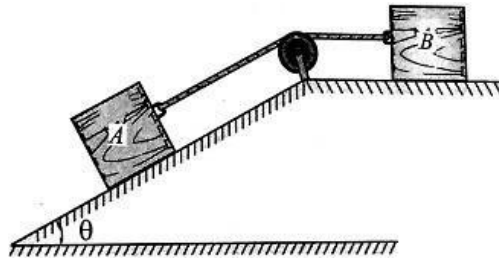

Fig.8
5. Find the value of ' θ ' if the block 'A' and 'B' shown in Fig.8 have impending motion. Given block A = 20 kg, block B = 20 kg, $\mu_A = \mu_B = 0.25$. [L1][12 M]